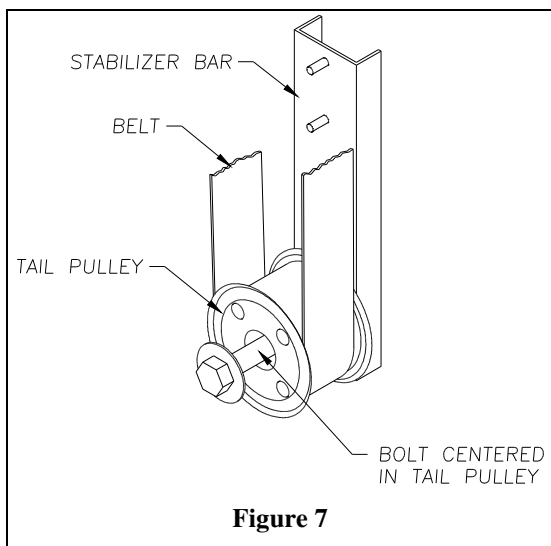

Figure 7
2. The belt supports the tail pulley with the 1/2" bolt shaft in the center of the tail pulley hole. (See Fig. 7)